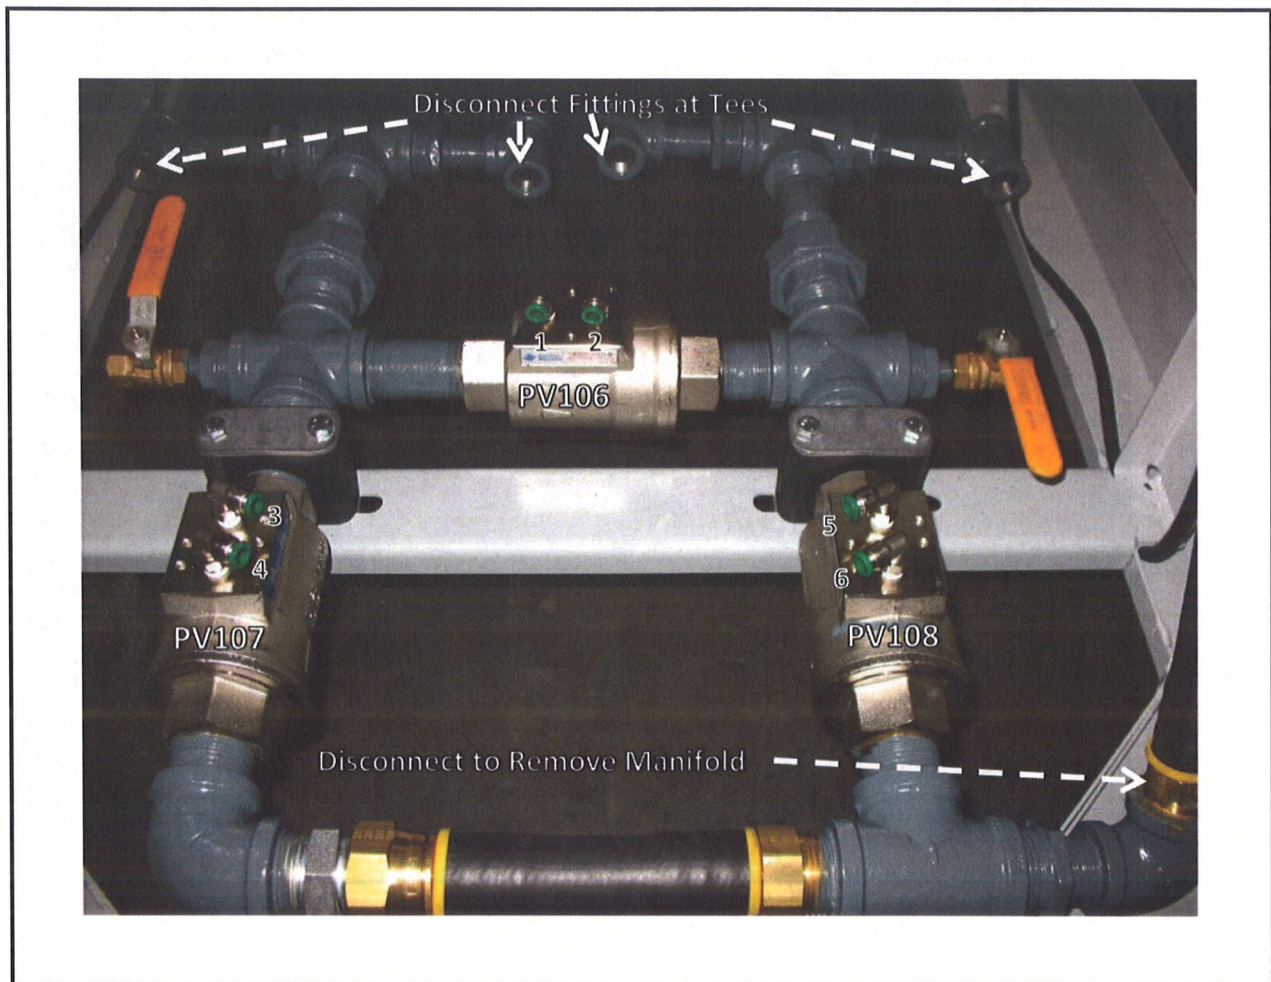

Figure 14: DB-15/20 Bottom Manifold – Tubing Disconnected
- i. Disconnect rubber hose fittings at three places (Figure 14):
- iv. While supporting the manifold, remove clamp hex bolts that secure manifold (Figure 14).